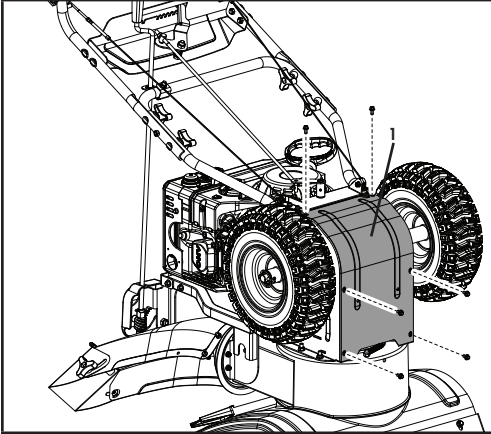

Figure 27
5. Remove the base frame cover (1) from the underside of the snowblower by removing the six M6 × 16 screws which secure it (Fig 27).